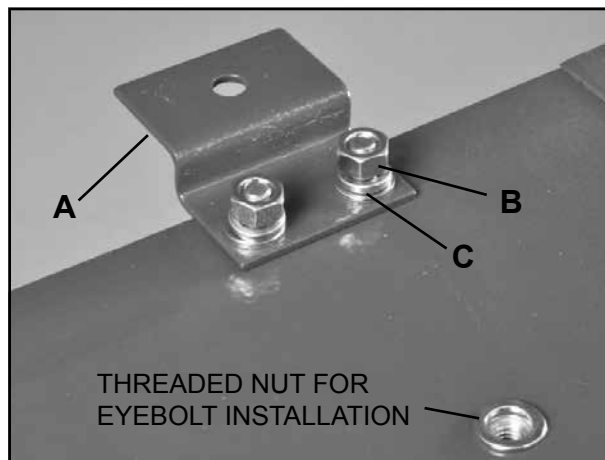

FIG. 4
1. Place one end of bracket underneath the lip of the cabinet. (clips in FIG. 4 are above the cabinet for clarity).
2. Attach the bracket (FIG. 4, A) with two Phillips head screws (B) and two lock washers & flat washers (C).